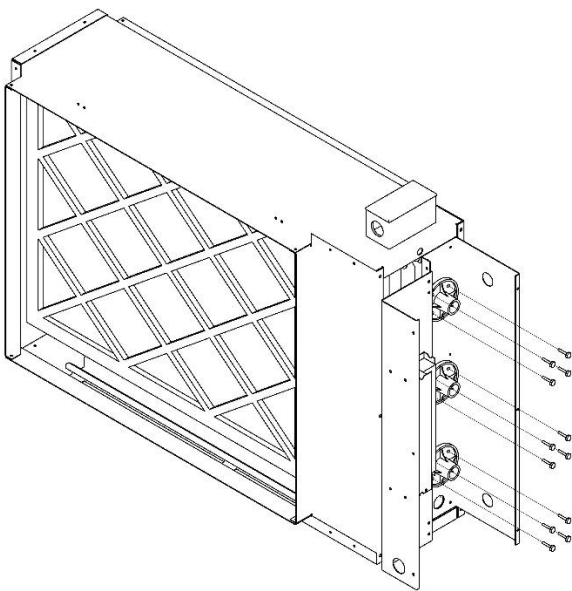

Figure 23
5.) Lamps are attached to catalyst panel with (4) 10-16 Self-Drilling screws per lamp. Remove the screws using a 5/16" socket. See Figure 23.
- 9.) Reinsert (4) screws per lamp using a 5/16" socket. See Figure 23.